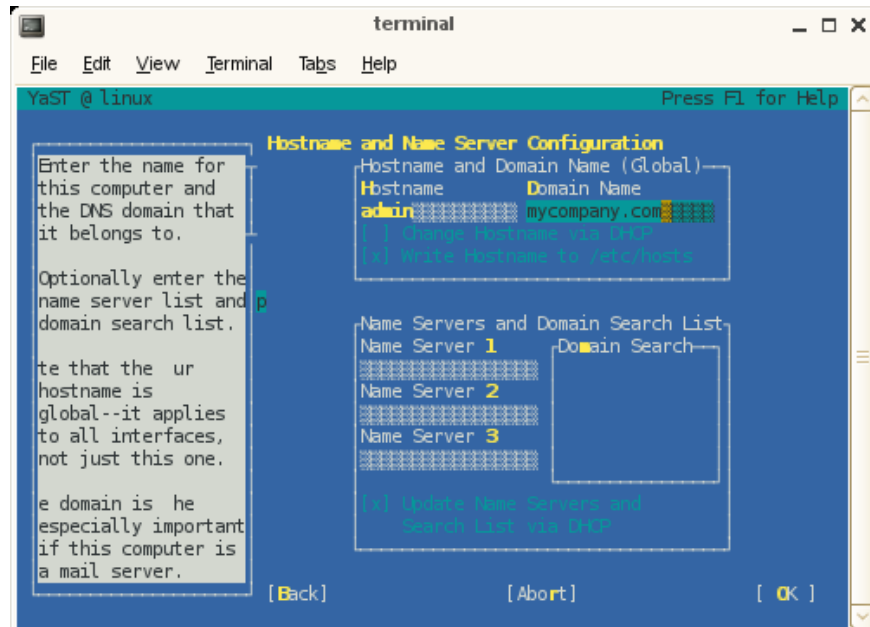

Figure 2-7 Hostname and Name Server Configuration Screen
11. From the **Hostname and Name Server Configuration** screen, enter the name and DNS domain name as shown in Figure 2-7 on page 43. Note that the hostname was entered in step 7.